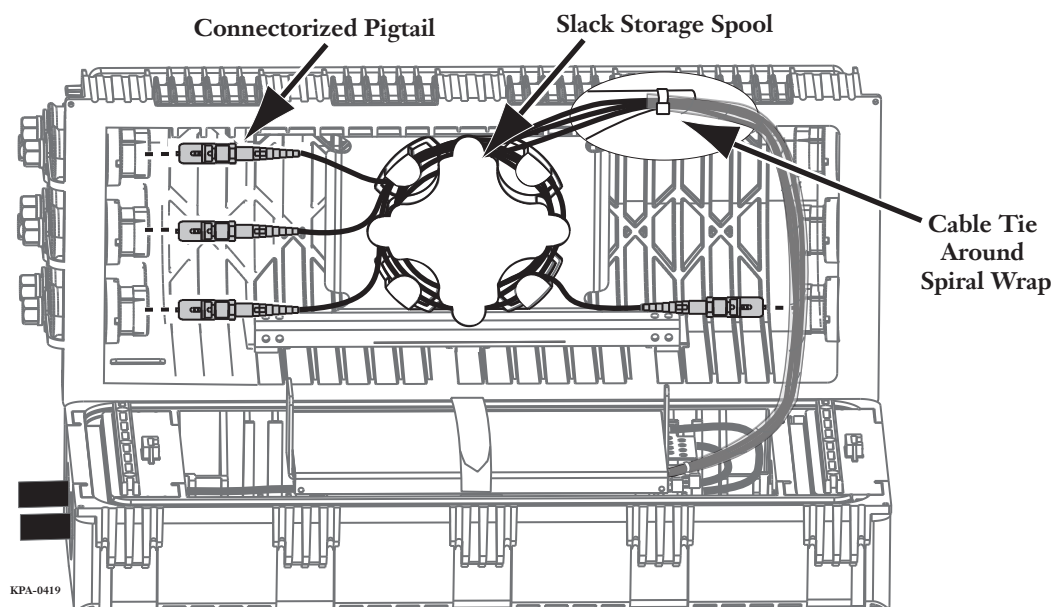

Figure 45
- Step 2:** Cut a length of spiral wrap long enough to cover the pigtails from the fan-out body to the cable tie location (approximately 12 inches) on the slack storage spool bracket in the terminal cover (Figure 45). Carefully wrap the pigtails with the spiral wrap, beginning at the fan-out body.
**Step 3:** Secure the fibers by attaching them with a cable tie around the spiral wrap to the slack storage spool bracket (Figure 45).
Insert each connectorized pigtail into an OptiFit adapter on the inside of the terminal (Figure 45). Refer to OptiFit adapter numbering on the outside of the housing for correct pigtail location.